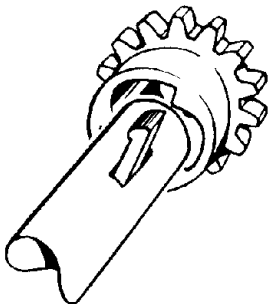

Fig. 12
1. Place pawl through slot in reel shaft. Make sure that the flat face will meet the flat face inside the pinion gear (see fig. 12).